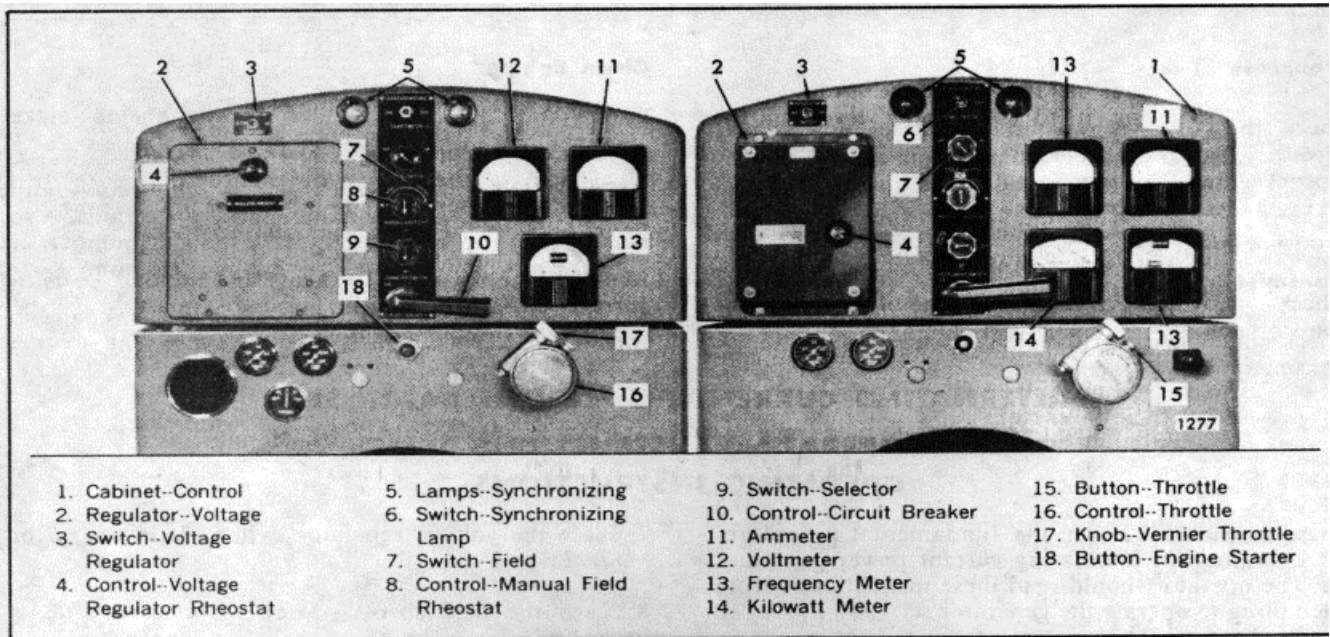

Fig. 1. - Typical Alternating Current Generator Control Cabinets
4. Refer to Fig. 1 and place the circuit breaker (10) in the *off* position.
Press the throttle button (15) and turn the throttle control (16), Fig. 1, counterclockwise to a position midway between run and stop. Then press the starter button (18) firmly.
1. Bring the engine up to rated speed. Then place the field switch (7), Fig. 1, in the on position.
2. Turn the voltage regulator switch (3) on.
3. Turn the instrument selector switch (9) to the desired position.
4. Turn the field rheostat (8) slowly in a counterclockwise direction to raise the voltage, while watching the voltmeter, until the rheostat reaches the end of its travel. The voltage regulator will take control of the generator voltage as the field rheostat reaches the end of its travel.
5. If the power generator unit is equipped with a frequency meter, adjust the engine speed with the vernier throttle knob (17) until the desired frequency is indicated on the meter.
6. Adjust the voltage regulator rheostat (4) to obtain the desired voltage.
7. Make sure all power lines are clear of personnel, then place the circuit breaker control (10) in the on position.
2. Check the voltmeter (12), Fig. 1; the voltage must be the same as the line voltage. Adjust the voltage regulator rheostat control (4) if the voltages are not the same.
3. Place the synchronizing lamp switch (6), of the generator set to be paralleled, in the on position.
4. Turn the vernier throttle knob (17) until both sets are operating at approximately the same frequency, indicated by the slow change in the brilliancy of the synchronizing lamps.
The procedure for stopping a power generator set or taking a set out of parallel is as follows: 1. Turn off all the load on the generator when stopping a single engine unit. Shift the load from the generator when taking a set out of parallel operation by turning the vernier throttle knob (17), Fig. 1, until the ammeter (11) reads approximately zero.